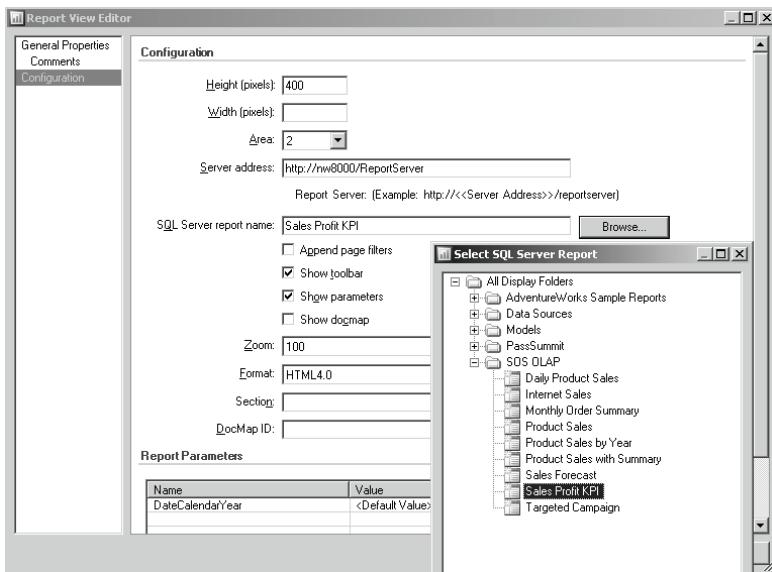

Figure 19.39 Use a SQL Server Report view to associate a standard report to a scorecard.
18. In the Configuration tab, configure the report invocation details, as shown in Figure 19.39.